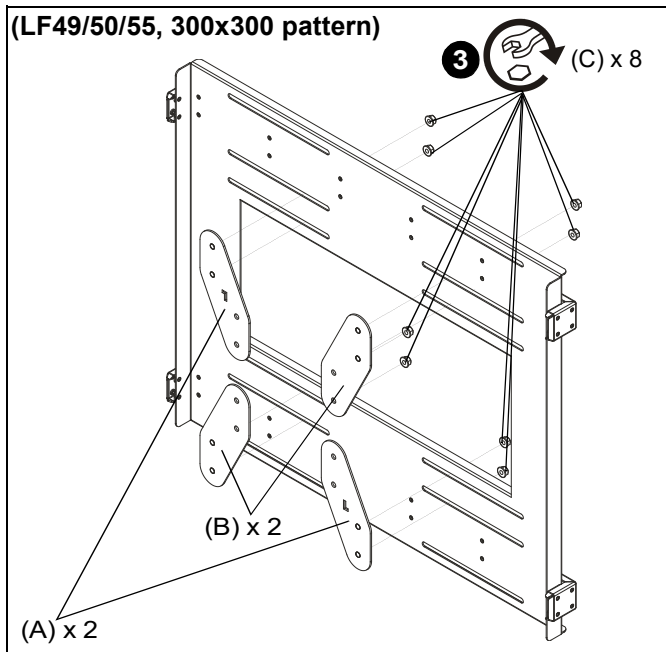
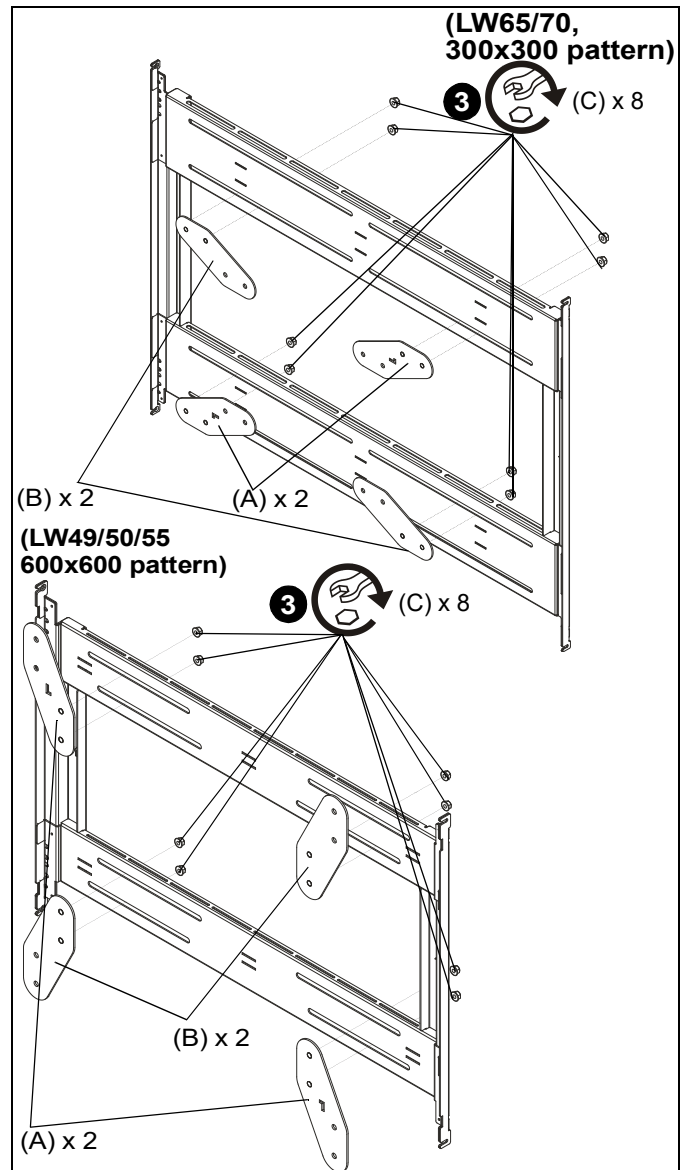

Figure 1
Figure 2
3. Use eight 5/16-18 hex nuts (C) to install adapter plates (A) and (B) to kiosk based on mounting configuration determined in previous step. (See Figure 1) or (See Figure 2) for examples.